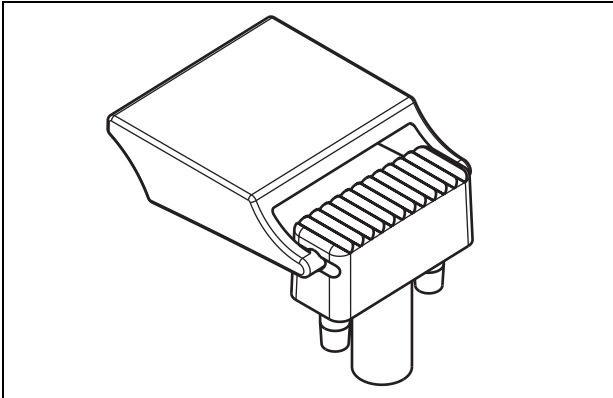

figure 17.1: Key cover
- 1 Snap the key cover in the replacement lens (see figure 17.1 for the end result).